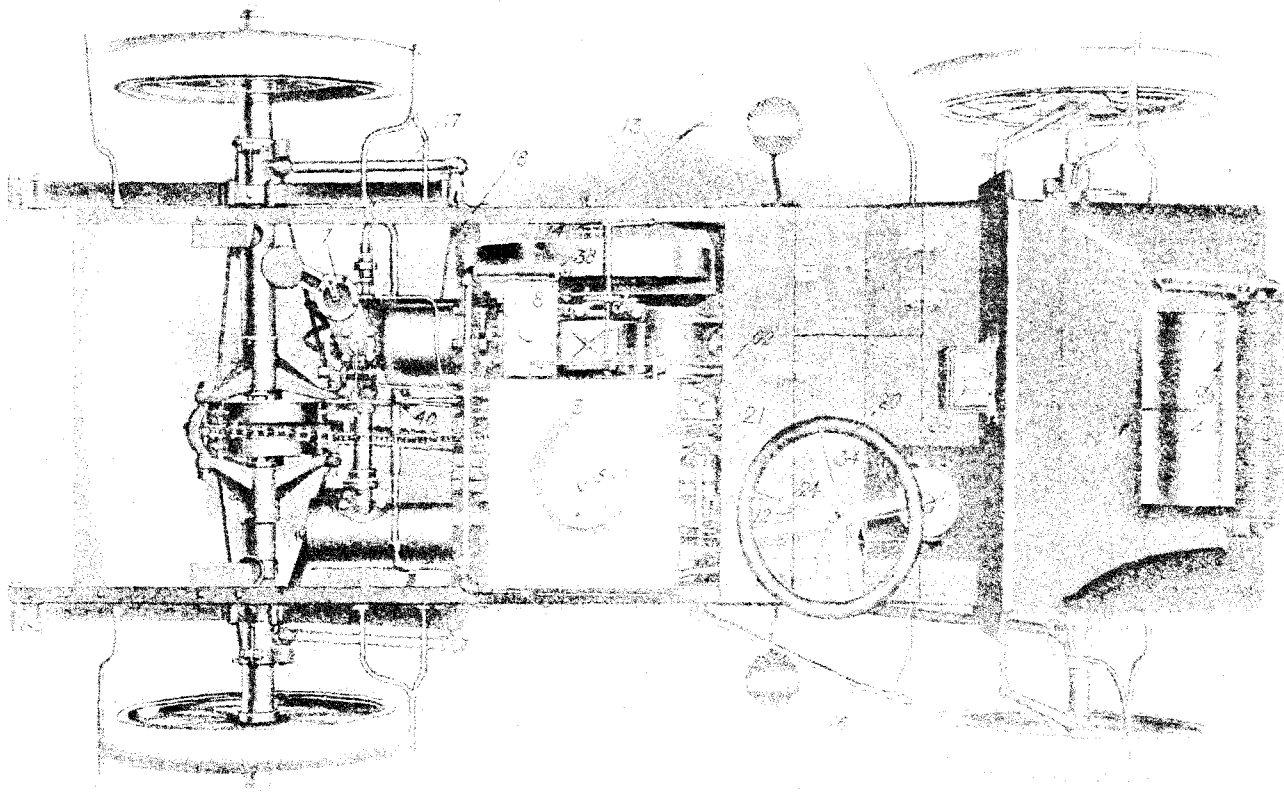
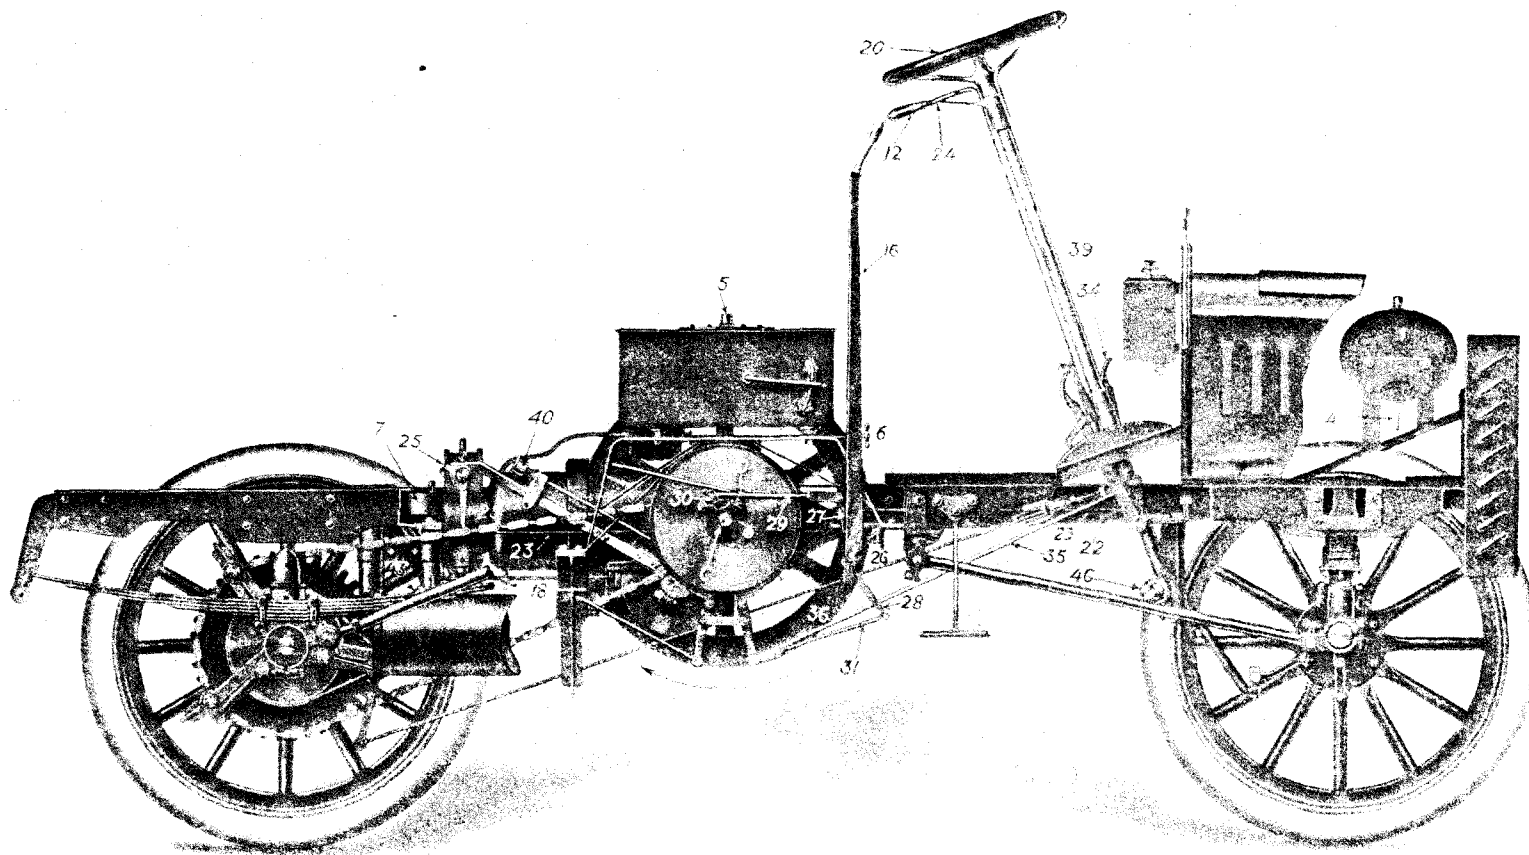

Figure 1
Figure 3
Raise hood cover and fill water tank (Fig. 1). To do this remove plug (2) in top of tank (1), insert funnel and fill with water. In freezing weather use some good anti-freezing solution. In filling tank first time or after water system has been drained, open cock (38) in end of stand pipe at side of lubricator. To get at this cock remove front cushion on left side and raise seat panel. **Be sure** to close cock (38) after tank is filled.
Take out cushion on right side front seat, raise seat panel, remove plug (5) in gasoline tank (3), insert the funnel and fill with clean gasoline, straining the gasoline through a screen, or preferably, a chamois skin in the funnel, and then replace the gasoline and water filling plugs (5 and 2, Fig. 1), screwing them in firmly, but not too tight. See that the gasoline valve (6) is open and that gasoline flows freely to Carburetor (7) by pressing down with the finger the primer (17, Fig. 1 and 3) until the gasoline flows out of the bottom of the Carburetor.
See that oil cup (8, Fig. 1) is full and feeds about 15 to 20 drops per minute. (No exact rule for oil feed can be given--too much oil is indicated by blue smoke from exhausts.) This cup, which also feeds the main bearings, is of the utmost importance (see Fig. 13, page 27).
The steering gear should be oiled occasionally at the top and bottom of the steering post (45, Fig. 1), also on the rack (46, Fig. 3).
Fifth. Insert starting crank (13, Fig. 1) in end of shaft (14, Fig. 1), turn crank (in direction indicated by arrow under fly wheel (Fig. 3) until the compression is felt to resist further motion, then turn the engine quickly over compression once. If engine fails to start, "prime it" by pressing down rod (17, Fig. 1) until gasoline flows. If the motor fails to start after the third or fourth time over compression there is some good reason. Cranking at random is a useless waste of energy.
Don't throw high speed lever (No. 16) forward **before** low speed lever (34, Fig. 3) is released or vice versa, or a broken crank shaft may result.
Open the cylinder drain valve (18, Fig. 3) so as to release the compression, then put the controller lever (16) in its neutral position, about half way between the ends of its travel. Now, by inserting the starting crank in the end of starting shaft (14) the motor should turn with very little resistance. Close the valve (18); the motor should turn as easily as before, except on the compression stroke, when throttle is wide open, which should give a considerable resistance to the turning of the starting crank. When the handle (A, Fig. 2) is turned up, and the spark lever (15) is moved toward the back of the seat, the spark should occur just after the end of the compression stroke of the piston. That is, just as the resistance of the compression on the starting crank has stopped, the sound of the vibrator (39, Fig. 3) on the coil should commence. If no sound of the vibrator can be heard when turning the motor over slowly by hand at the end of each compression stroke, the electrical outfit should be inspected separately. See electrical explanation (Fig. 5, pages 24 and 25).
The shifting of the cam (25, Fig. 3) increases or decreases the size of the opening into the cylinder through which the explosive mixture of air and gasoline must pass, thereby increasing or decreasing the amount of the charge which, of course, has a corresponding effect on the speed and power of the motor.